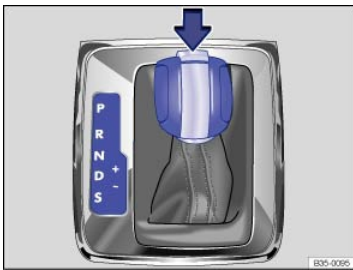

Fig. 116 Automatic transmission selector lever with shift lever release button (arrow).
Automatic transmission vehicles have an Automatic Shift Lock (ASL). With ASL, you must depress the brake pedal and hold it down while pressing the release button on the selector lever handle in the direction of the arrow ⇒ Fig. 116 in order to move the selector lever out of Park (P) and into a drive gear. When the selector lever is in Neutral (N), you also have to depress the brake pedal before you can move the selector lever to Drive (D), Sport Drive (S), or Reverse (R).